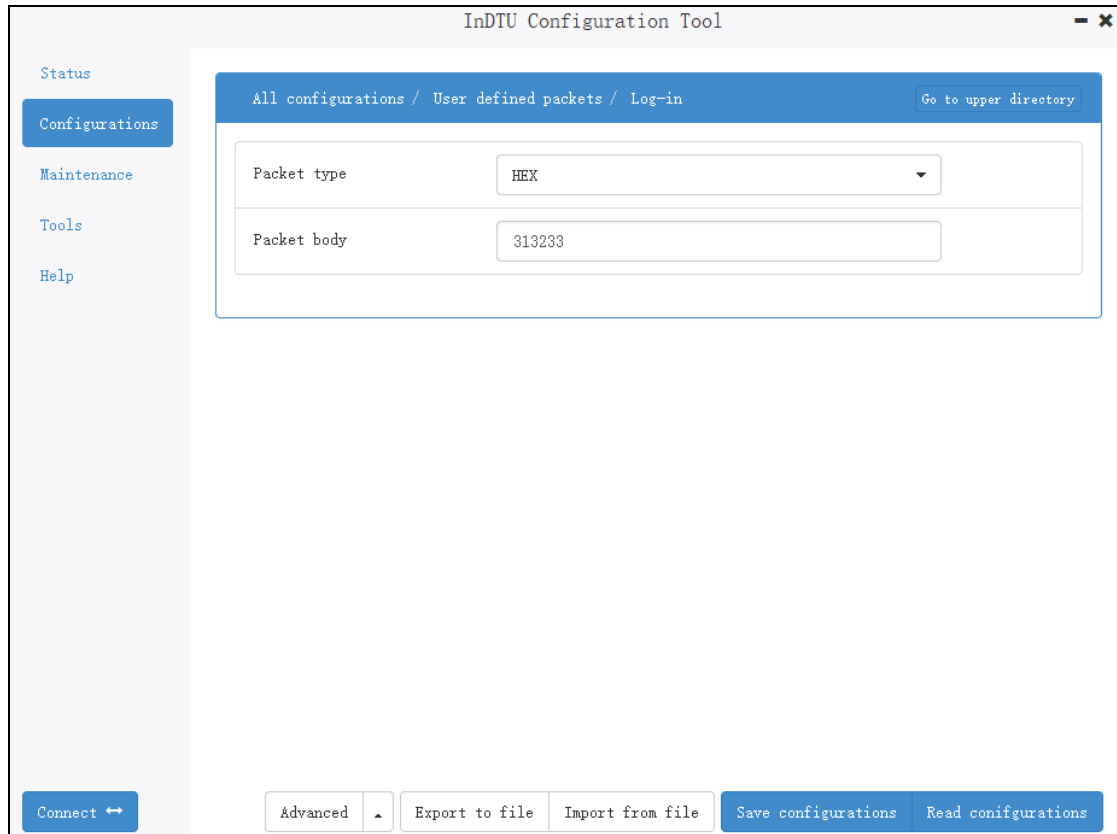

Figure 5-9 UDP Example 1
Step 2: Configure login packet. Choose “Configuration>>User defined packets > Log-in”. Select the packet type and enter the packet body, as shown in Figure 5-9.